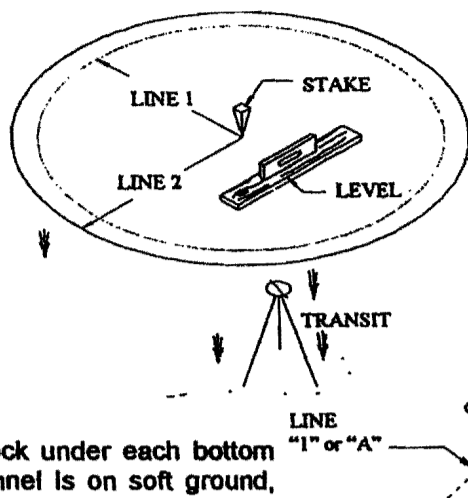

FIGURE 1
Step 2: See Figures 1 and 2 and table on page 3. Scribe a circle defined by line "1". Slide the wall channels into the bottom clips and position them on the circle. Place a patio block under each bottom clip. If the bottom wall channel is on soft ground, place additional blocks in a pyramidal shape under the bottom clips for support. Dig 2" down for each block. *The top of each block must be at grade level.* When leveling the blocks, never build up; always dig down. Place a stake at the center of each wall channel to keep the circle round during installation.